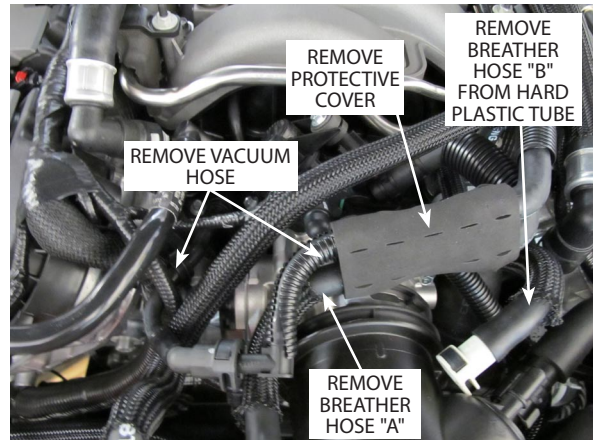

Fig. 8-a: Dual Check Valve Assembly
- Remove breather hose "B" from the hard plastic tube that runs beneath the drivers side of the intake manifold. (See Fig. 8-c for a view of the hard plastic tube.)
- B. With the hoses removed, you should be left with the ports on the left side of the dual check valve exposed. (See Fig. 8-b)